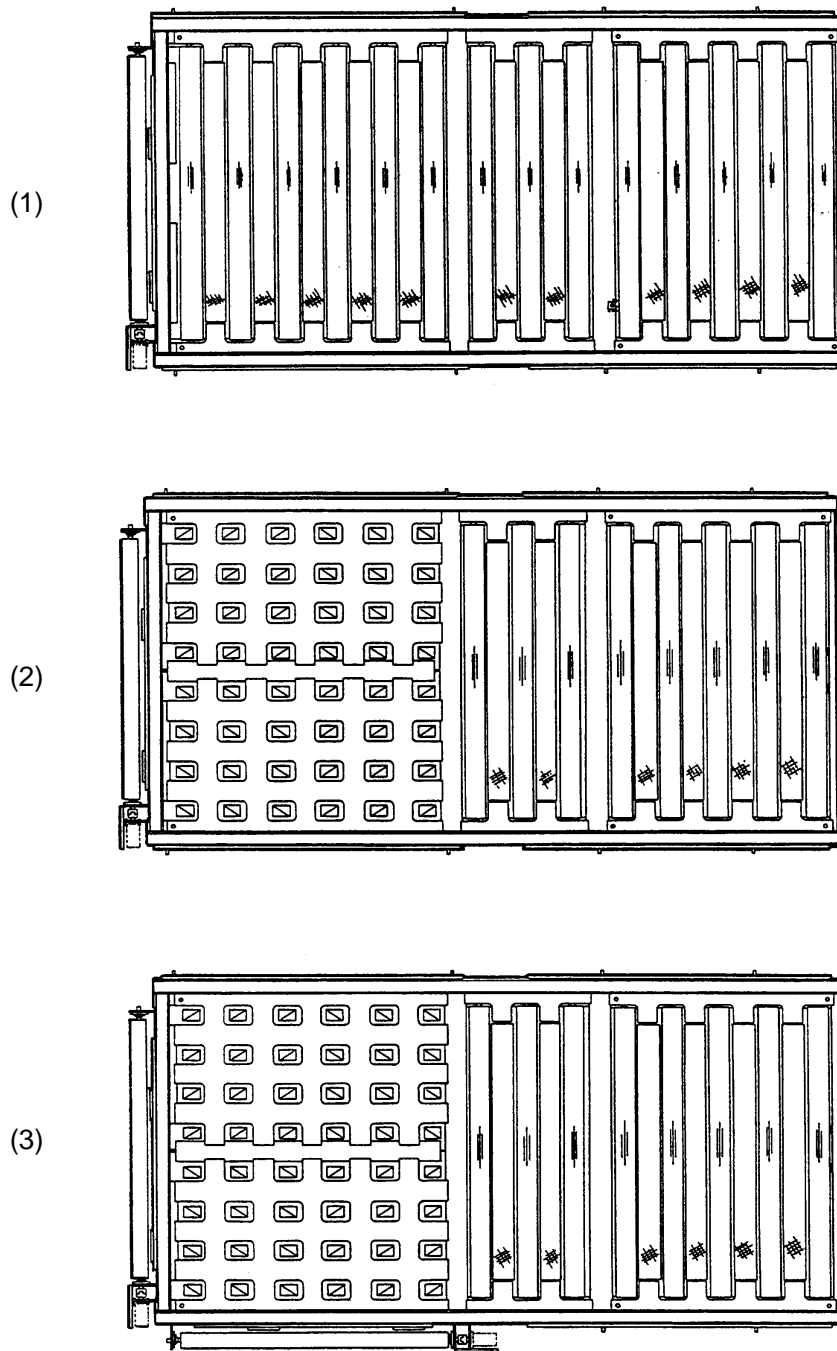

Figure 10
(1) End Pallet Load (Figure 10)
(2) End Load w/Container Side Shift (Figure 10)
(3) Right Side Container Load (Figure 10)